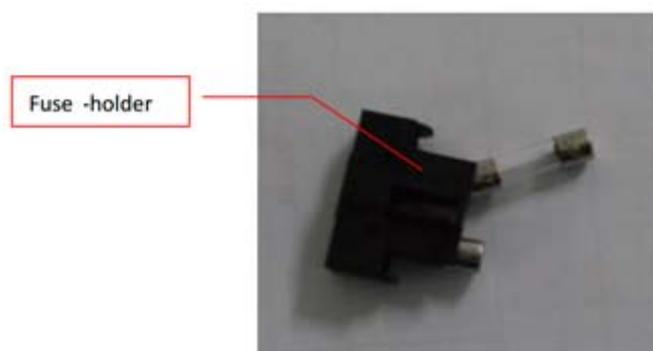

Fig 7.2 Replace the fuse
- c) Replace the fuse with a new one (Fig.7.2)